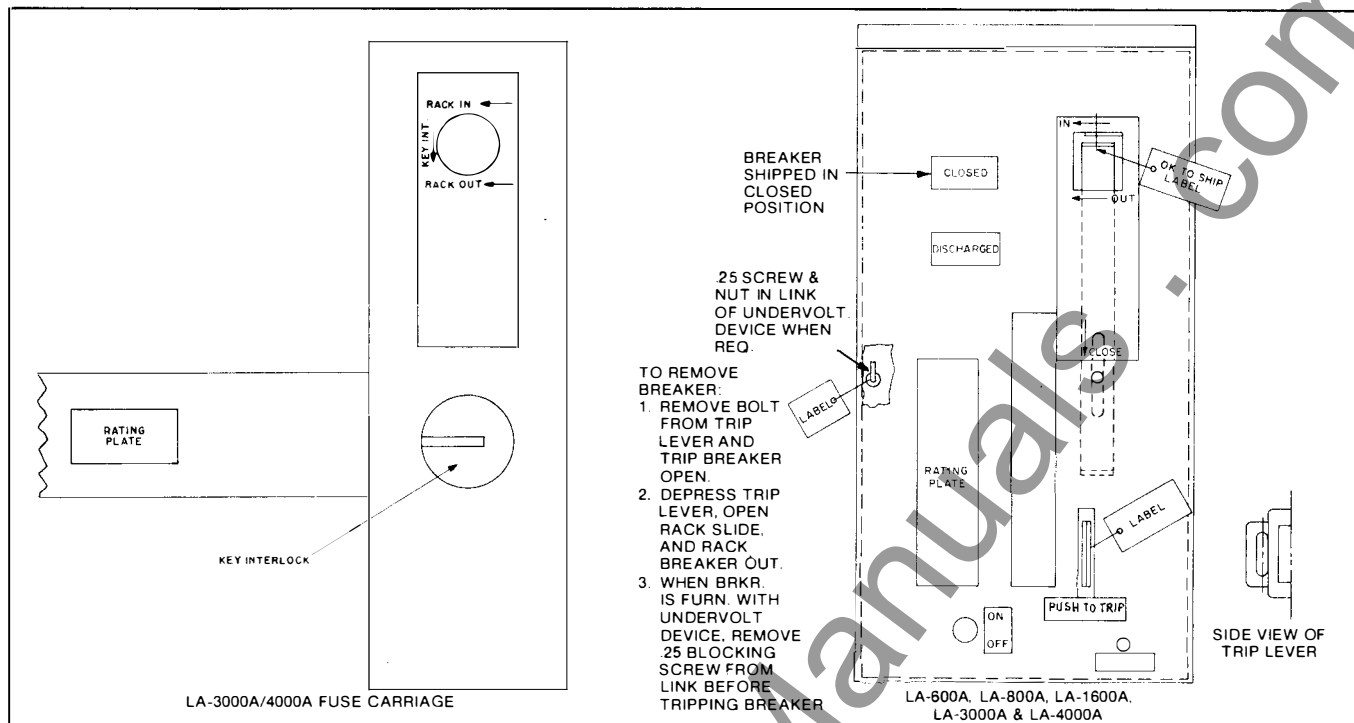

Figure 28. — Remove all Tags and Blocking Before Opening Circuit Breaker
2. Circuit breakers are shipped in the closed position and are blocked to prevent accidental tripping during shipment. Remove all blocking and tags before opening circuit breaker (See Figure 28). If breakers are shipped separately, the procedures for installation are outlined below. If breakers are shipped in their respective switchgear compartment, follow instructions in Figure 28 to remove from switchgear.